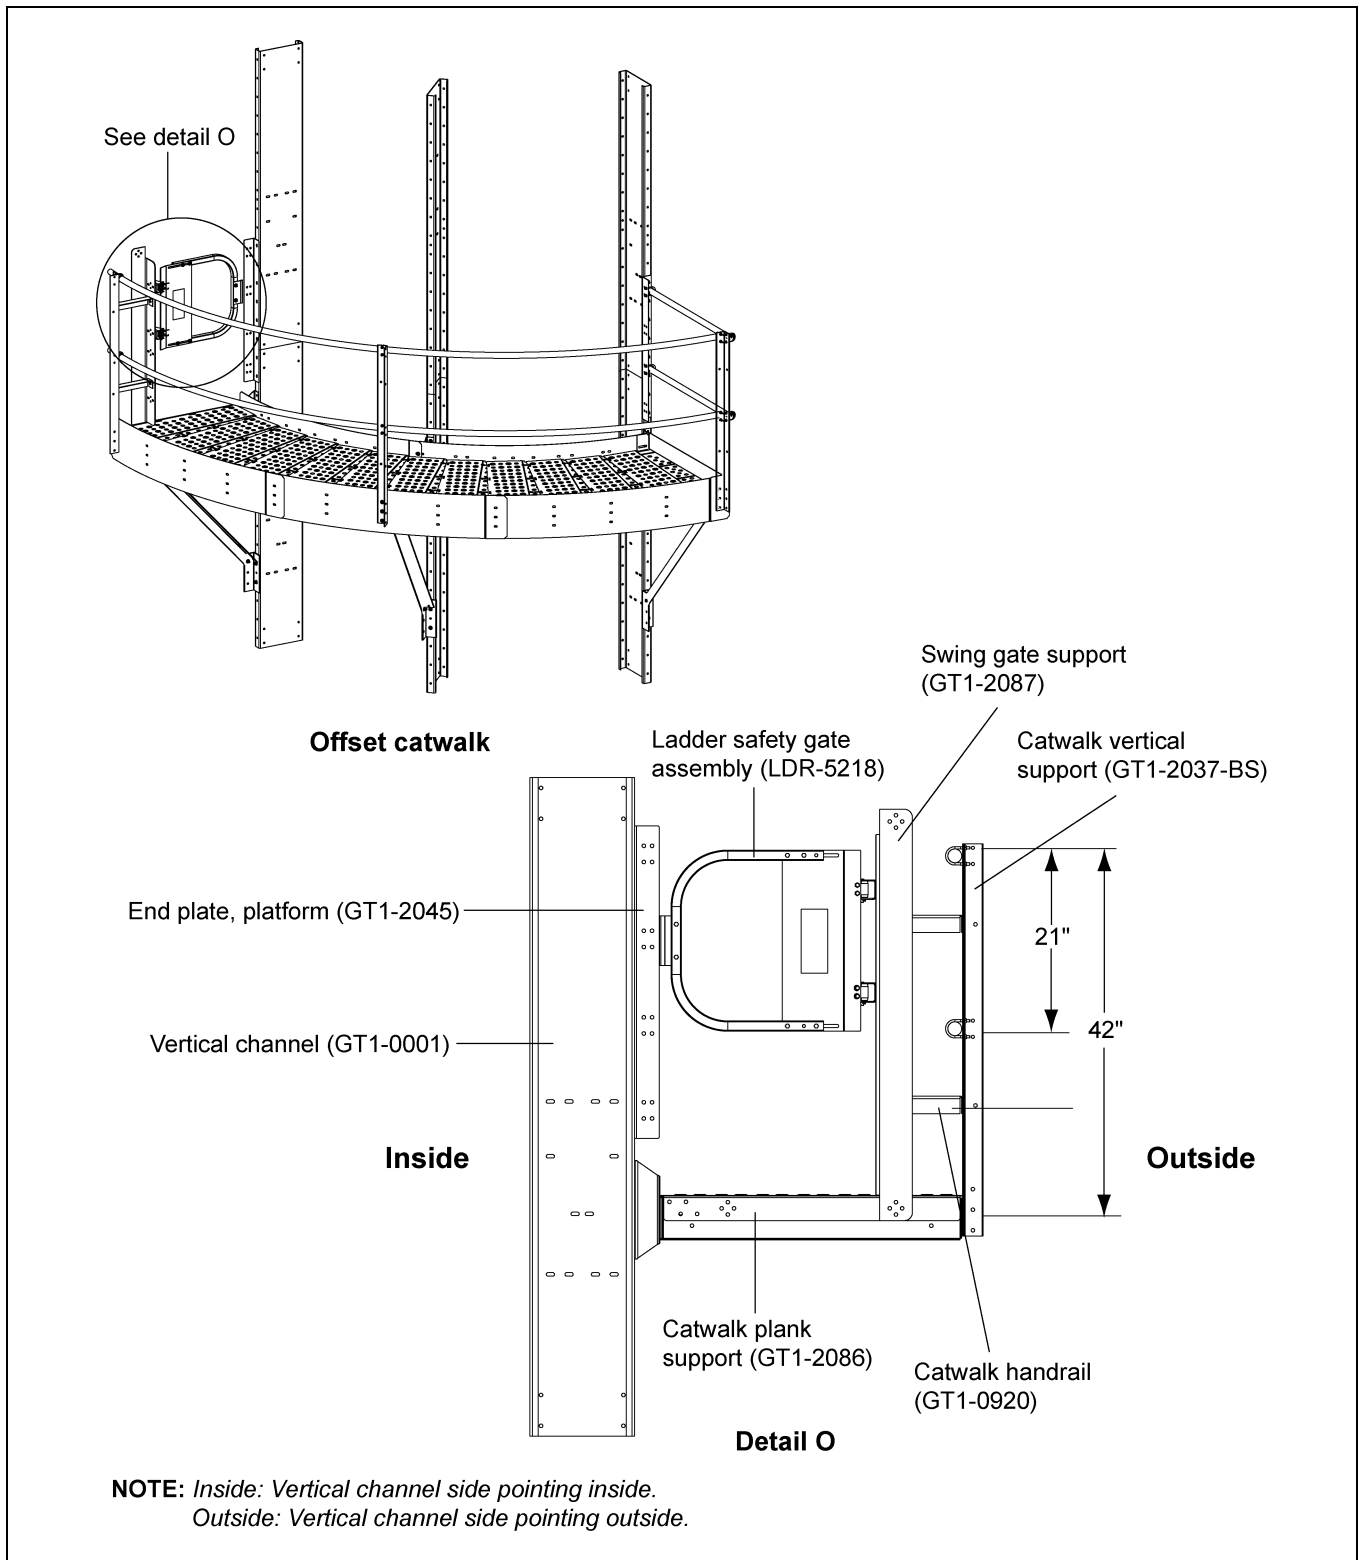
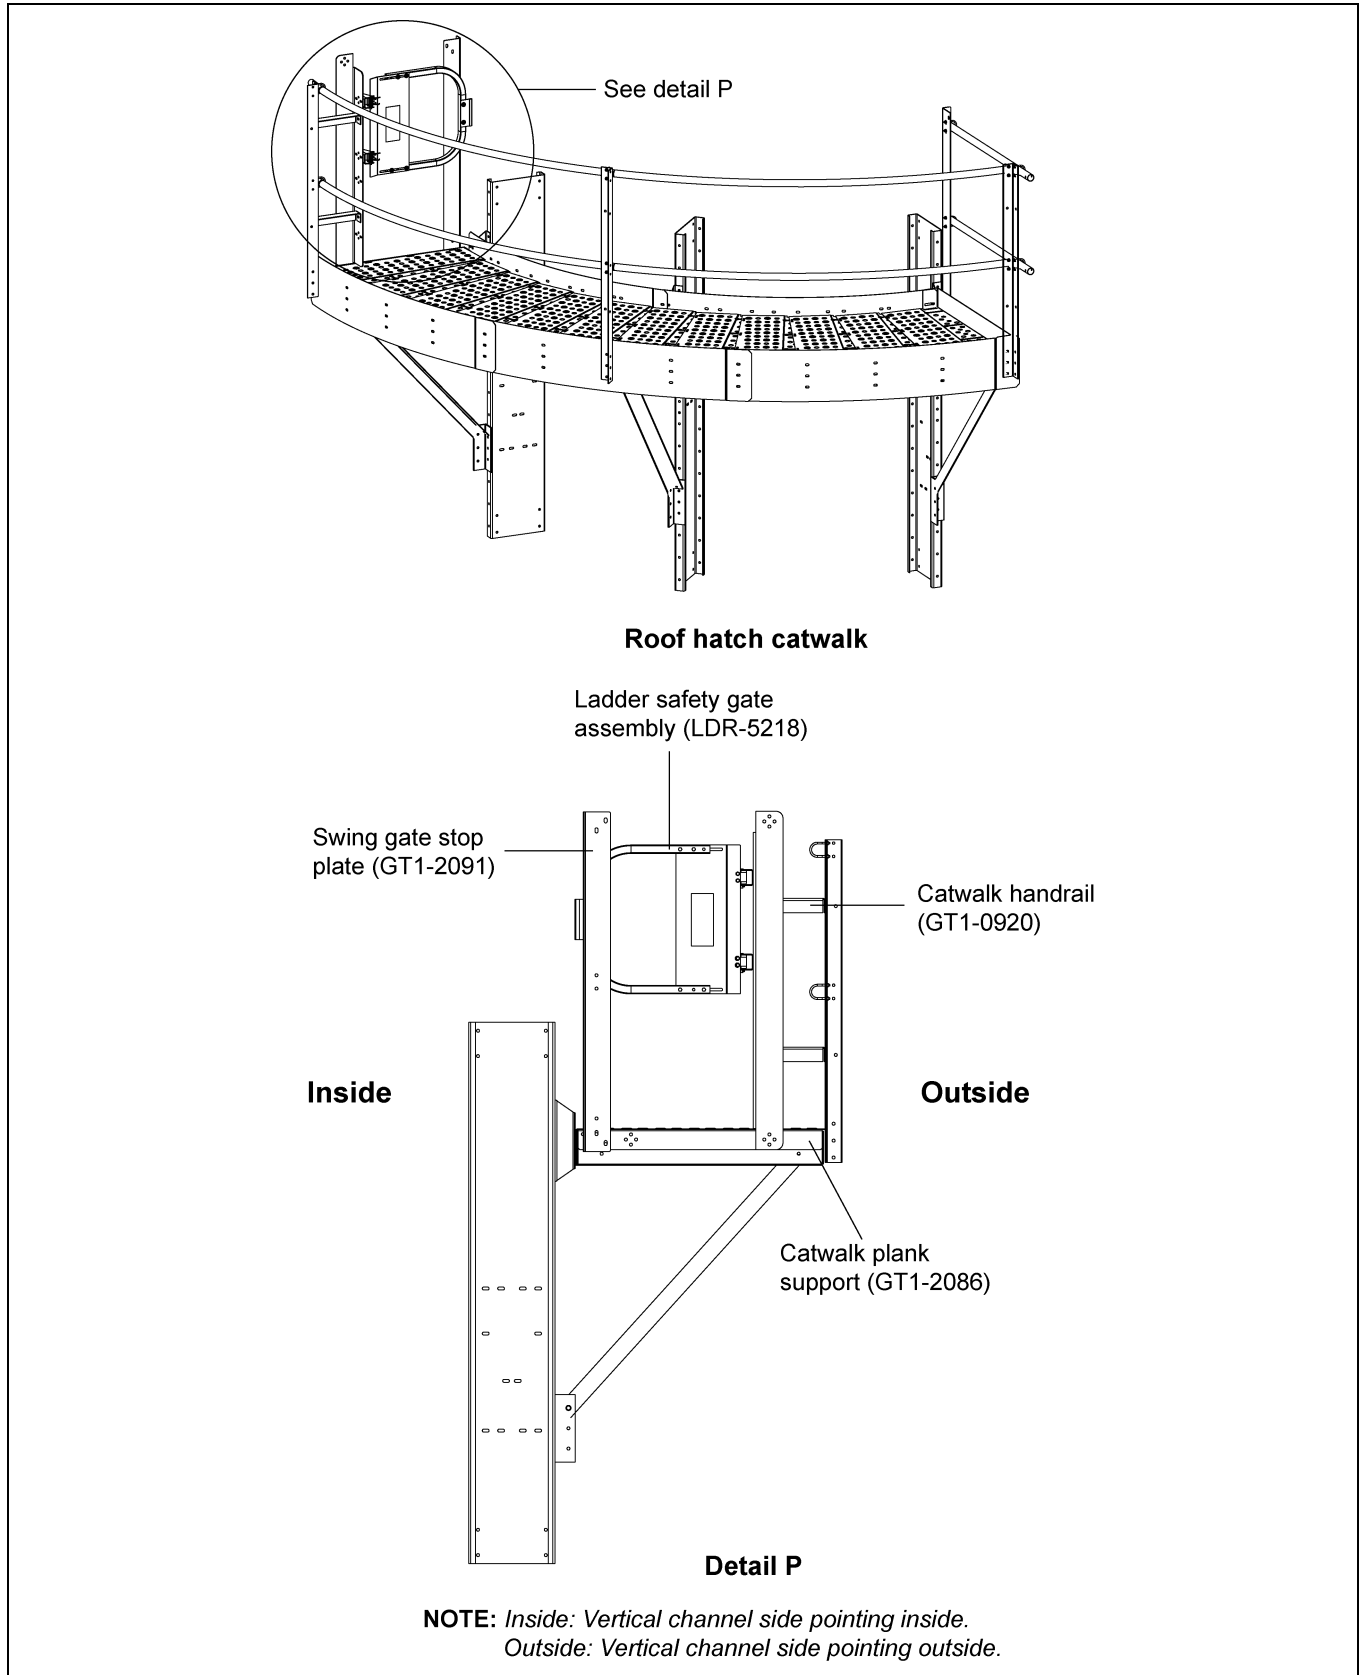

Figure 6Y Offset Ladder Safety Gate Assembly to Swing Gate Support (GT1-2087)
Figure 6Z Roof Hatch Ladder Safety Gate Assembly to Swing Gate Stop Plate (GT1-2091)
- Install the ladder safety gate assembly (LDR-5218) to the swing gate support (GT1-2087) using 3/8"-16 x 1" JS grade 8 or grade 8.2 bolts (S-7485) and 3/8"-16 ZN grade 5 nuts (S-968). The distance between the plank and handrail is 42". (See Figure 6Y below and Figure 6Z on Page 64.)